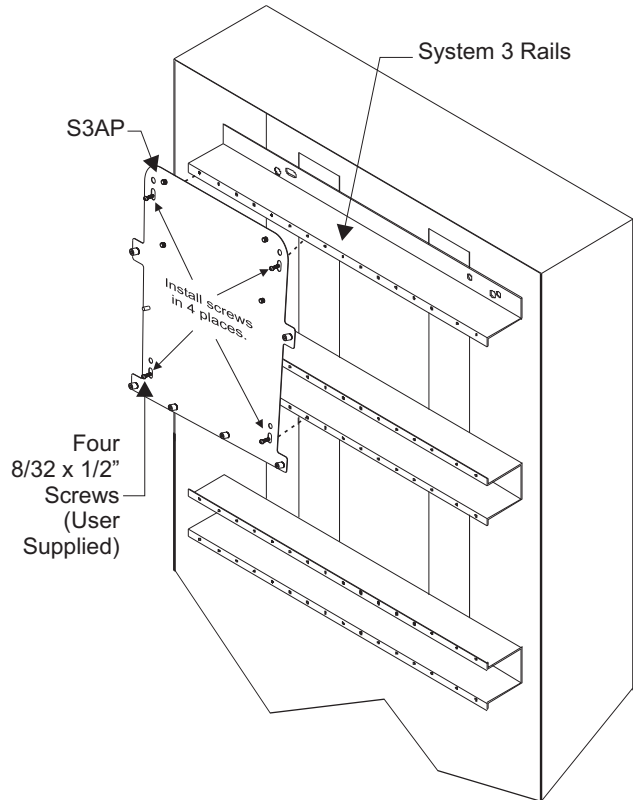

Figure 3
2. Place the S3AP adapter plate over the mounting holes in the desired location in the System 3 rails. Using four 8/32 x 1/2" screws (user supplied), mount the S3AP to the System 3 rails on the upper and lower left and right slots of the adapter plate as shown in Figure 3. Note that the height of the adapter plate can be adjusted to fit between the rails.